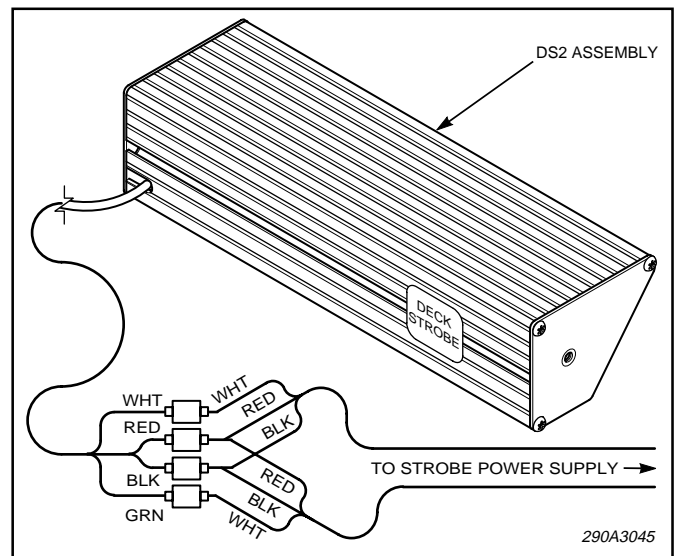

Figure 2.
7. When connecting to the Model DS2, connect the cables' conductors as shown in figure 2.